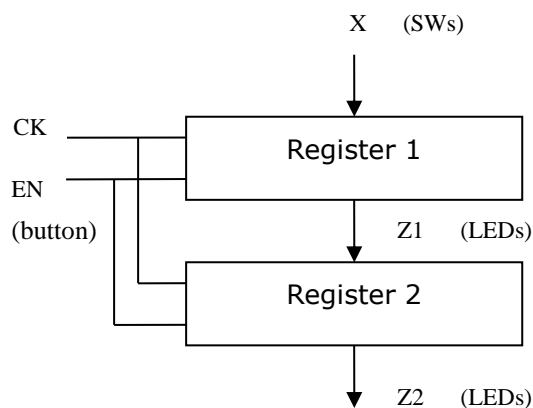

Fig. 1 Cascading Register with Load Enable
1.4 Create cascade_reg, edit structural description style code for 4-bit data (register 1 and register 2) (Fig. 1).